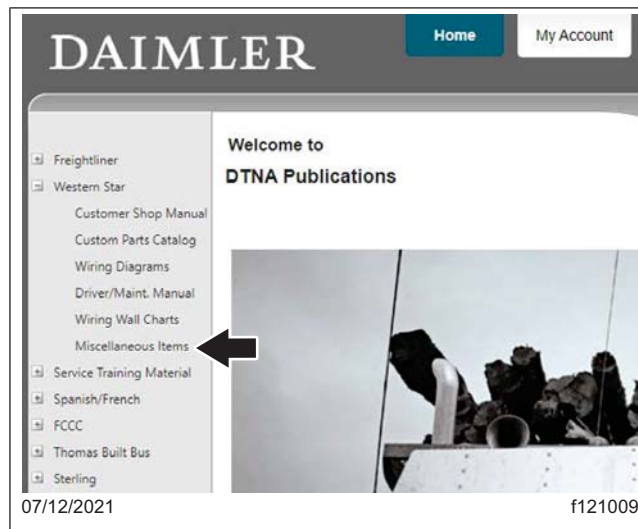

Fig. 5, Miscellaneous Items
- Select 'Miscellaneous Items.' See Fig. 5.